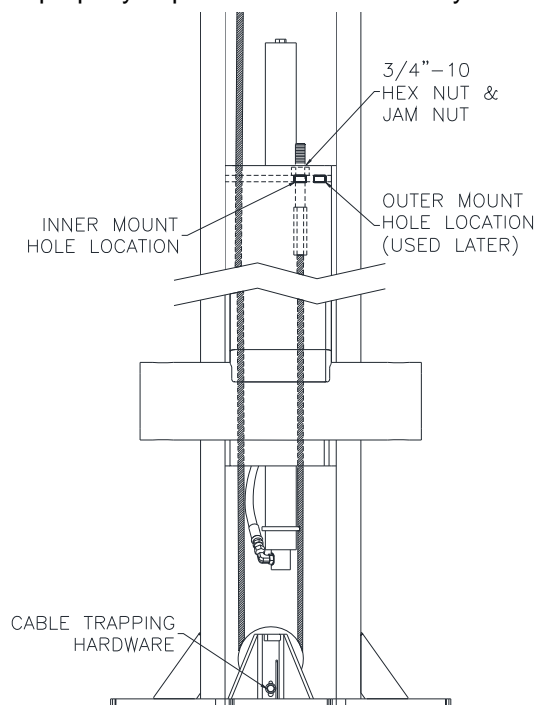

Fig. 2 – Cable Routing LAYOUT
- 2) Remove hex bolt and cable trapping pin from sheave bracket, **Fig. 2**.